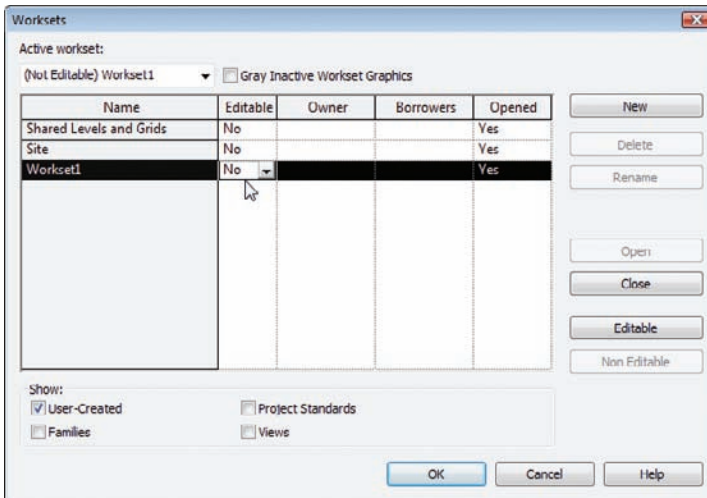

FIGURE 22.10 Making all worksets not editable
13. Make all worksets not editable, as shown in Figure 22.10, and then click OK.